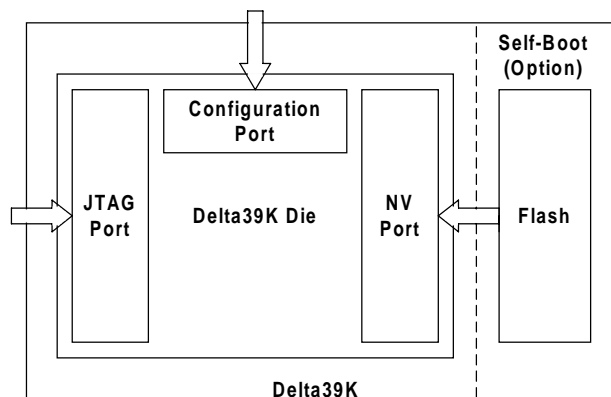

Figure 1. Configuration Paths into the Delta39K™
Delta39K devices can be configured in multiple ways (Figure 1). The bitstream can be sent through the JTAG port from a PC, through the Serial Configuration port from an external EEPROM, or through the Non-Volatile (NV) port from the internal Flash. For volatile Delta39K and Quantum38K, configuration through the internal Flash is obviously not available.